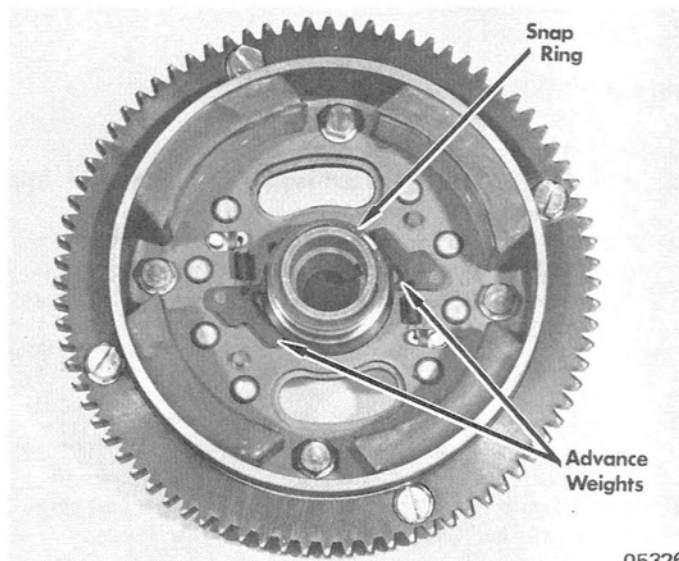

Figure 3. Spark Advance Mechanism
2. Remove snap ring from flywheel hub. (Figure 3)